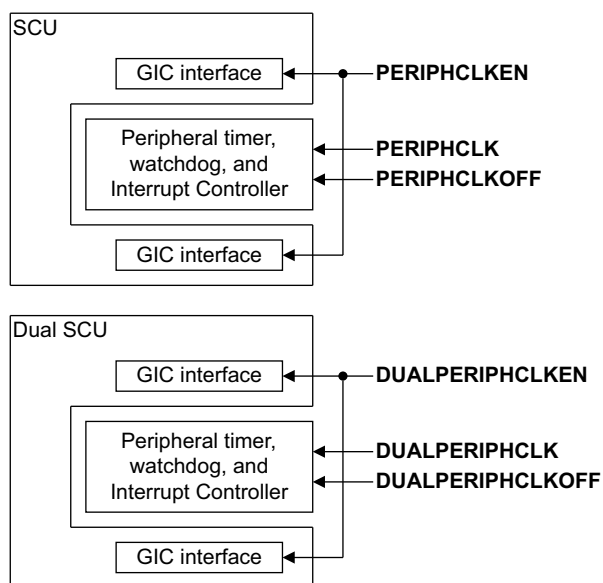

Figure A-1 Clocking in lock-step or split/lock implementation
b. Only present if lock-step or split/lock is implemented. Figure A-1 on page A-4 shows how these signals are used in a single SCU and a dual SCU implementation.